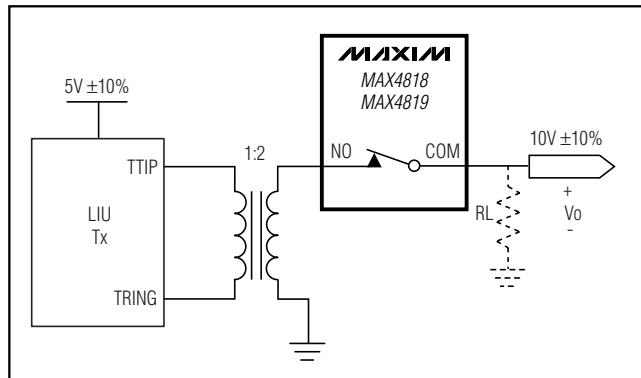

Figure 1. Fault Protection
The fault protection of the MAX4818/MAX4819 allows the devices to handle input signals of more than twice the supply voltage without clamping the signal, latching up, or disturbing other cards in the system. The device detects when the input voltage drops below the negative supply. As soon as a fault condition is detected, the switch is immediately turned off for 128 clock cycles (typically 128 μ s). At the end of the 128 μ s timeout, the switch is turned back on for one clock cycle. At the end of the one clock cycle, if the signal is within the operating range, the switch will remain on. Otherwise, the device will turn the switch off again for 128 clock cycles. This will repeat until the signal is within the operating range. In T1/E1 redundancy applications, this can happen when the load resistor (RL) is removed or disconnected for any reason, as shown in Figure 1. Without a load resistor, the output voltage when using a 1:2 transformer can be as high as ± 11 V.